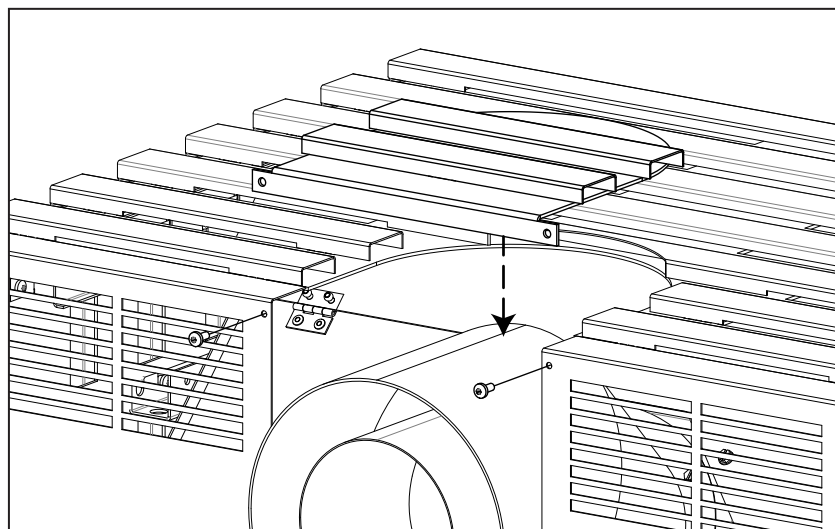

Figure 52: Top Vent Cover Plate
6. Find the rear vent cap that was included with the unit. Align the rear vent cap as shown in Figure 52 and fasten into place using two (2) #8 screws.
This unit may be vented to an existing masonry chimney, or where no masonry chimney is available, an approved "B-vent" chimney, or any other approved constructed chimney/vent system (see Figure 52 & 53).